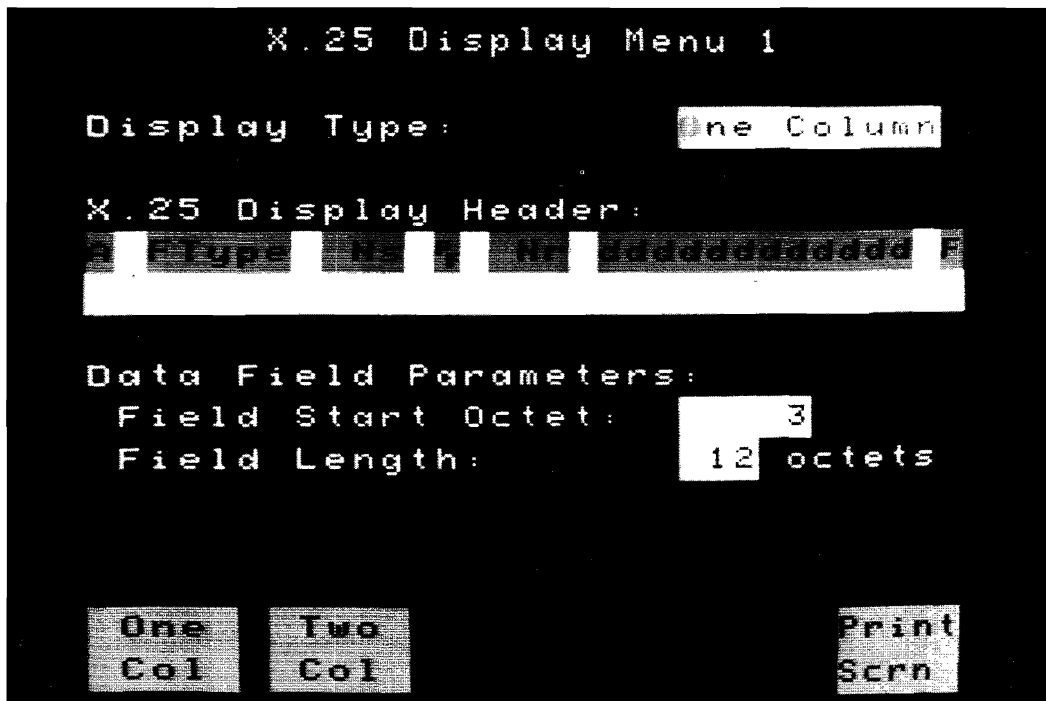

Figure 3-7. One or Two Column Menu
- a. Select either a one or two Column display format. See figure 3-7.